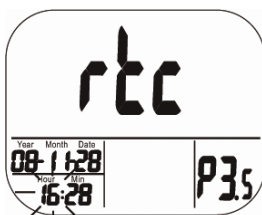

Fig. 16: Setting the hour (clock)
- Press SET to save the settings and enter P3.5 mode to set the hours, Fig. 16. Press Set to save and enter P 3.6 mode to set the minutes or press ESC to return to P3.0 mode without saving.